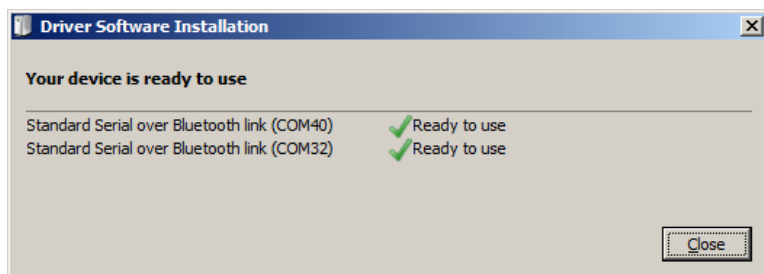

Figure 10: Virtual COM ports - ready to use
- When the device is successfully added and the two virtual COM ports are ready to use, click **Close** (Figure 10).